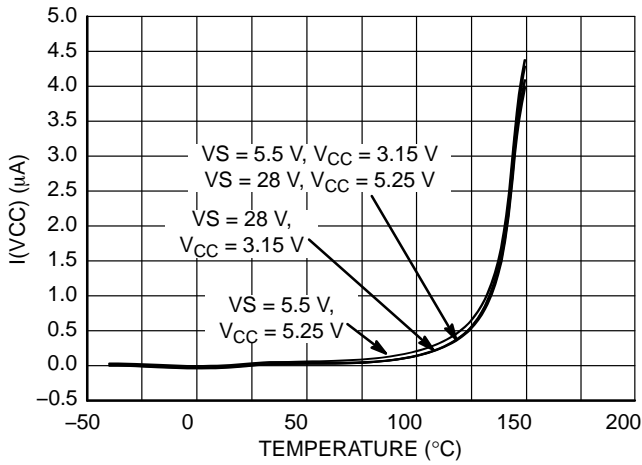

Figure 17. I(VCC) vs. Temperature
7. Refer to Figure 17 for the V_{CC} standby current behavior.